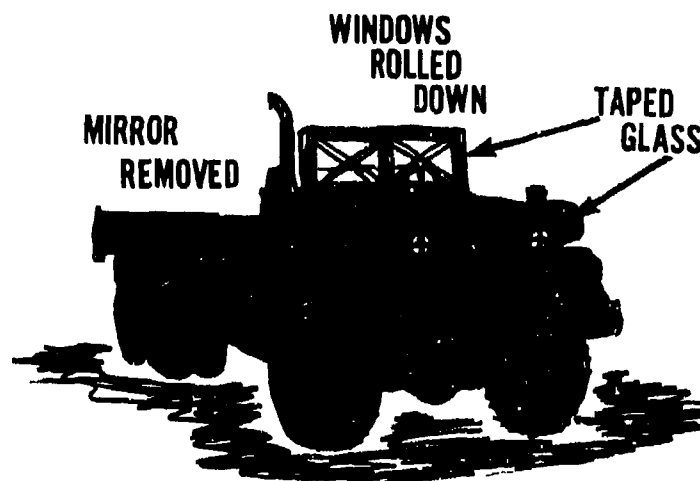

FIGURE 20. PROTECTING VEHICLE GLASS.
--"Remove, cover, or tape glass." Obviously, windows, mirrors, head and tail lights, and instrument panel glass will shatter and become potential missile hazards. Removing or rolling down windows will help if the doors are not removed. Large sections of glass that cannot be removed can be taped (edges and diagonals) to reduce fragmentation. Head and tail lights and some instrument panels may also require taping (see figure 20). Clear or transparent tape can be used on instrument dials and indicators.